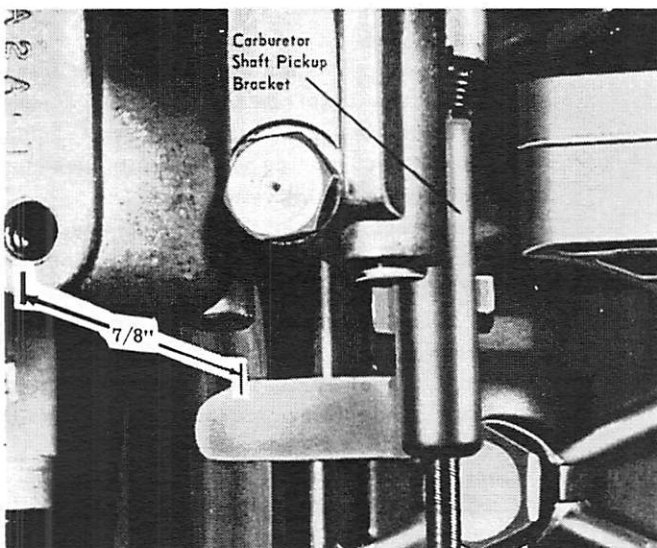

Figure 4. Carburetor Shaft Reverse Pickup Bracket Adjustment
5. Tighten pickup screw. (Figure 4)